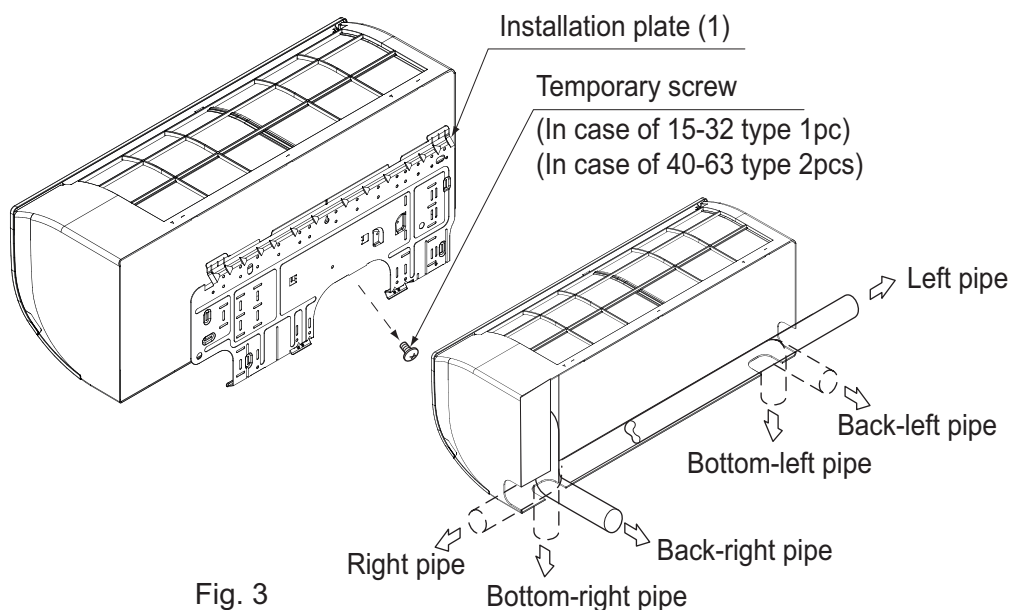

Fig. 3
**(1) Open the piping through-hole.**
- The refrigerant pipe and drain pipe can be passed out in one of 6 directions: left, bottom-left, back-left, right, bottom-right, and back-right. **(Refer to Fig. 3)**
**(2) Remove the installation plate (1) from the unit and attach to the wall.**
**(Refer to Fig. 3)**